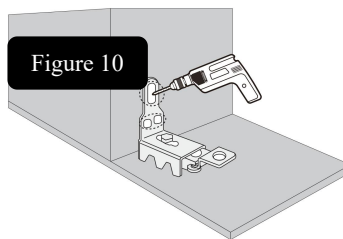

Figure 10
- Step 2:** Pre-drill the marked places using 1/8" drill bit (Figure 10).